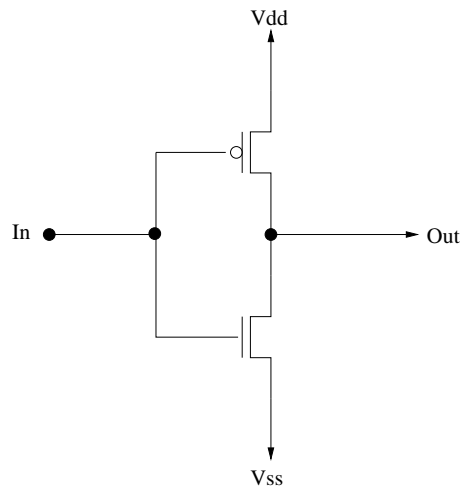

Figure 1: transistors diagram of a C-MOS inverter
- draw the inverter "stick-diagram" **inv\_x1** whose transistors diagram is represented on the figure 1.